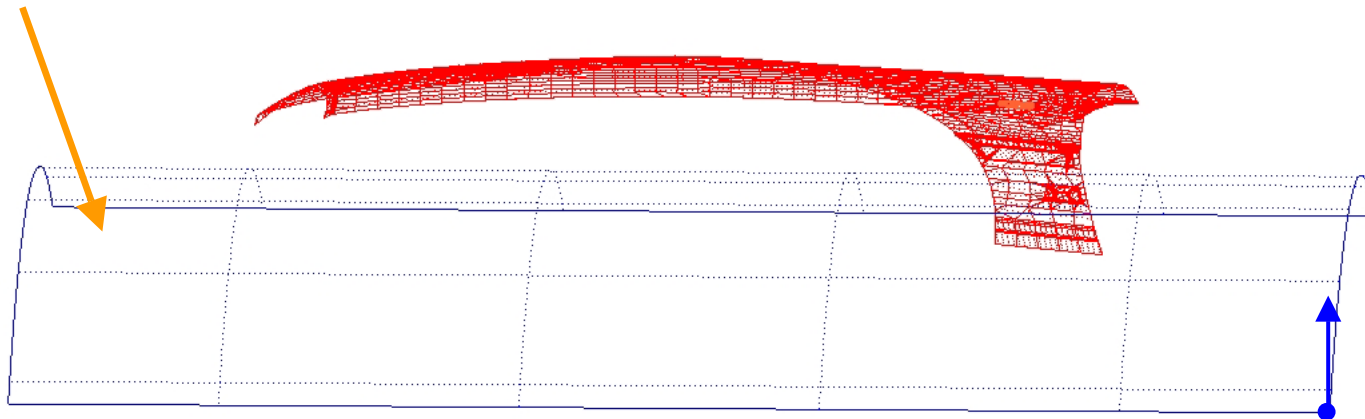

Figure 6.21
- 7) Select binder surface (Figure 6.21)
- 10) Click (-) (as shown in Figure 6.21)